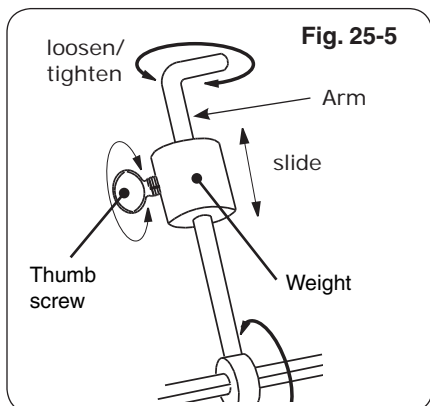

Fig. 25-5
7. Slide the counterbalance weight up or down the arm until the rod rotates most evenly then tighten thumb screw (Fig. 25-5 and Fig. 25-6).